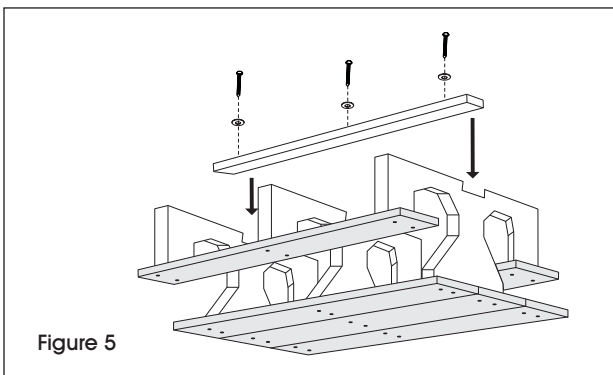

Figure 5
7. Attach base support board into the indent in the plastic base bottom using the 3 1/2" lag screws, washer, power drill and 3/4" socket bit. (See Figure 5)